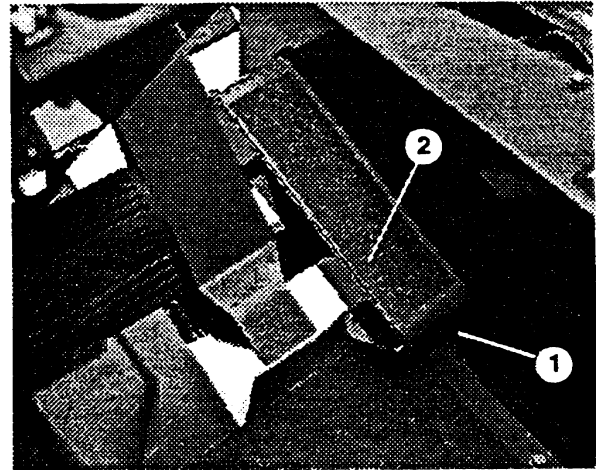

Figure 5
7. Mount footrest to footrest bracket and floor plate with (2) carriage bolts and locknuts (Fig. 5).
8. Affix foot rest pad to top of foot rest (Fig. 5).